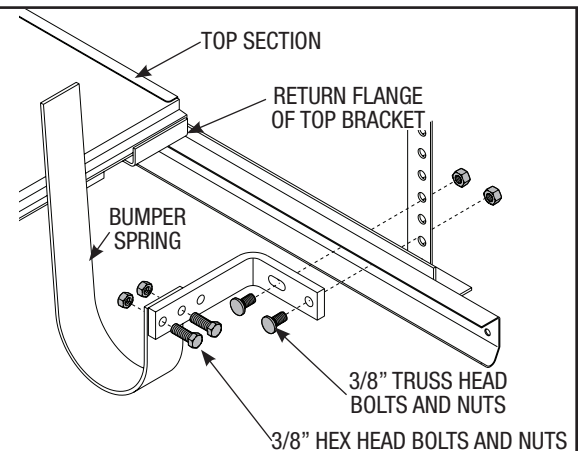

Figure 5
Refer to the main installation manual for installing the back hanger supports prior installing the bumper springs. Attach the bumper spring to the "L" shaped bumper spring bracket using (2) 3/8 x 1" bolts. Raise the door to 2" - 4" past the full open position. Align bumper spring with the return flange of the top bracket. Attach the bumper spring assembly to the horizontal track using (2) 3/8" truss head bolts (See Figure 5) **DO NOT WELD.**